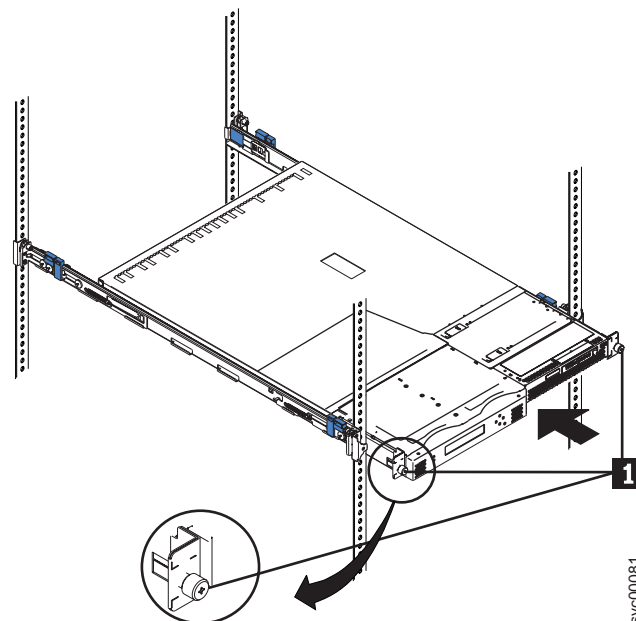

Figure 118. Installing the SAN Volume Controller 2145-4F2 into a rack
3. Fully tighten the two captive thumbscrews (**1** in Figure 118).